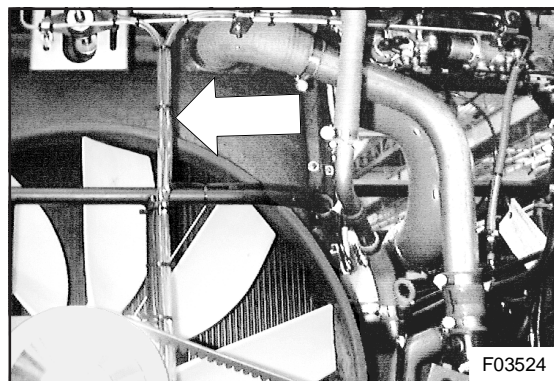

Figure 9: Surge tank and filler neck overflow tubes
11. With diagonal cutter pliers, cut loose the surge tank and filler neck overflow tubes (see Figure 9). Stow away tubes.